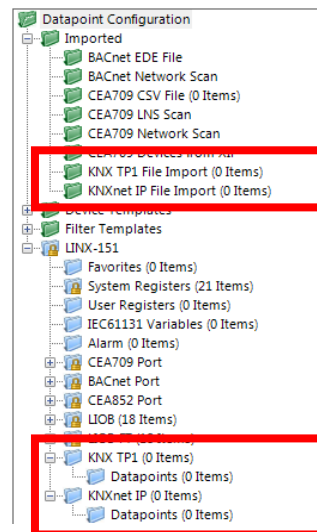

Figure 293: Data Point Manager Dialog with KNX import and device folders.
- The folder list (Figure 293),